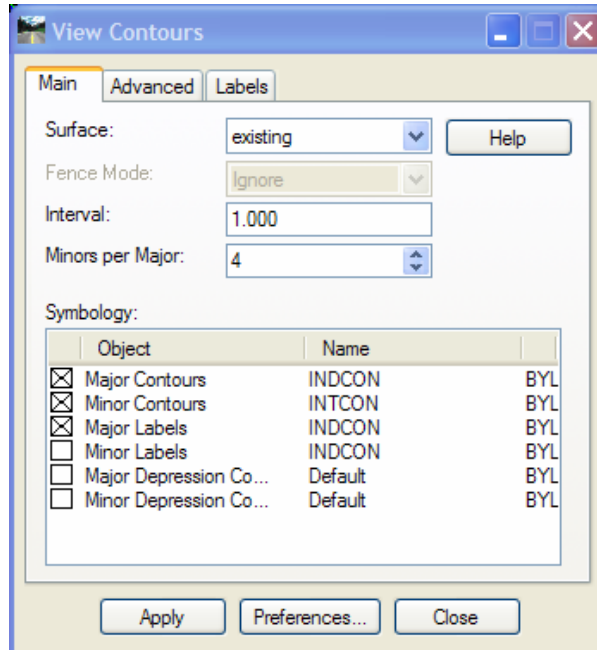

Figure 2-5 InRoads View Contours Dialog Box
I. On the InRoads Main Menu Bar click on **Surface >View Surface> Contours** (Figure 2-5).